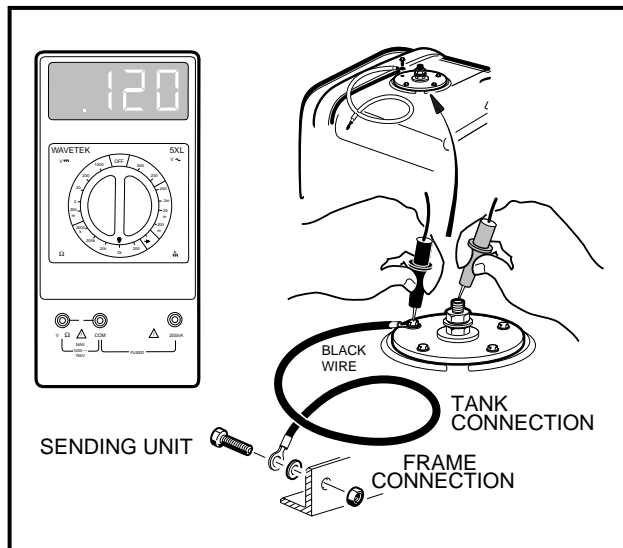

Figure 11-44 Test Fuel Level Sending Unit
3. With a multimeter set to 2k Ω (ohms), place the red (+) probe of the multimeter on the center post of the sending unit. Place the black (–) probe on the ground connection of the sending unit (**Figure 11-44, Page 11-40**).